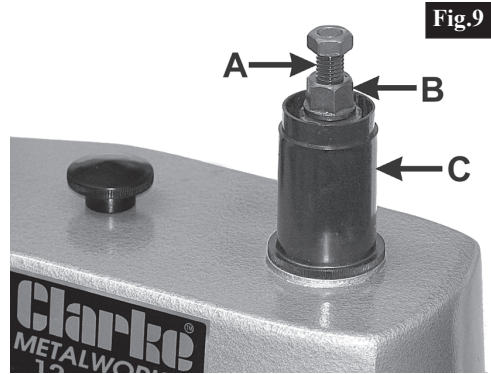

**Fig.8**
- Slide the Arbor into the spindle and push home - fully (Fig.8).....